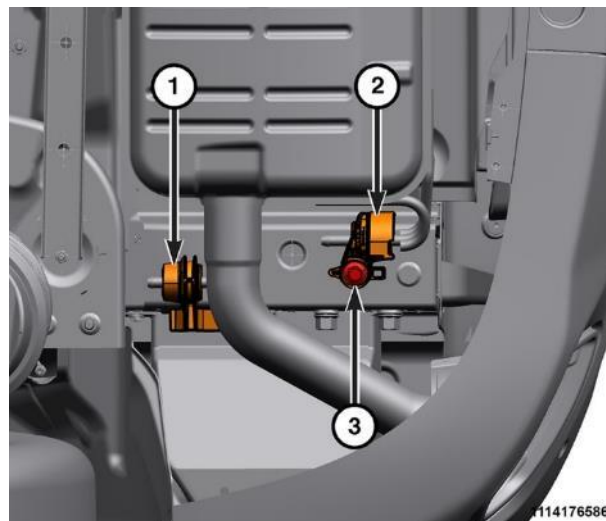

Figure 34 – Exhaust Isolators
12. Remove the two right front exhaust isolator bolt (Figure 34).
13. Remove the right rear exhaust isolator bolt (Figure 34).